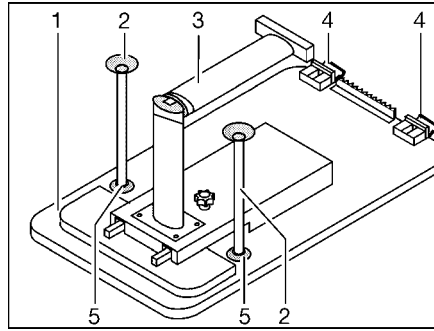

Fig. 95 Bed foundation
- Slightly raise the front of the table-top (Fig. 95,1).
- Unlock table leg (Fig. 95,3) at the hinge and fold it in.
- Push the table-top approx. 45° upwards and remove holders (Fig. 95,4) from the upper mounting rail.
- Depending on the model, insert both additional support legs (Fig. 95,2) into the holders (Fig. 95,5) on the bottom side of the table.